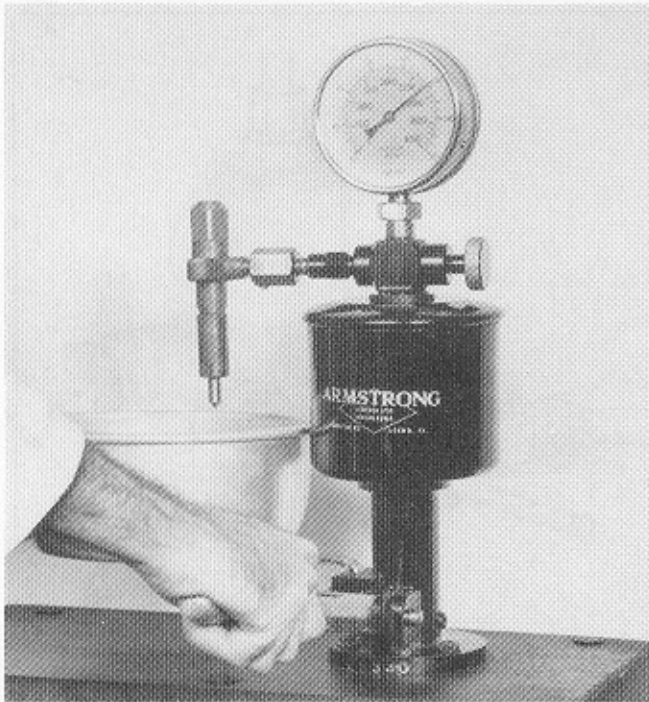

Figure 3.10
3.26 Using the test rig (Figure 3.10) test and set up the fuel injector as follows: